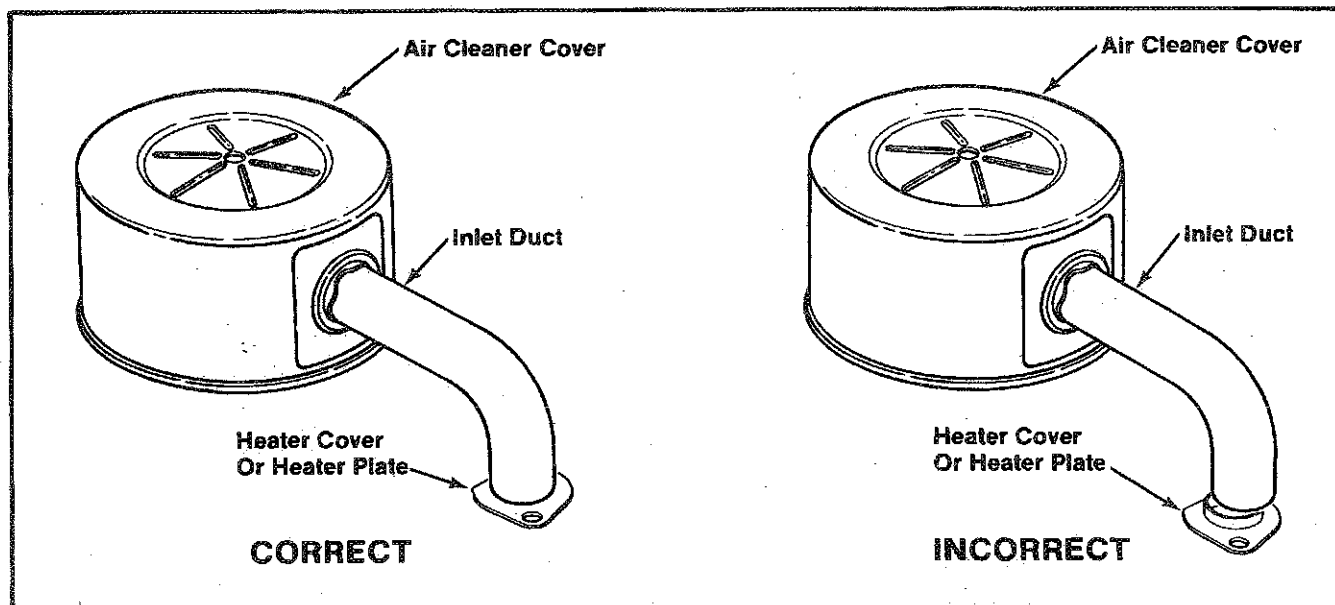

Figure 5-6. Installing Anti-Icing Air Cleaner Cover
**For "Winter" Position** - Make sure the inlet duct fits completely over heater plate or heater cover. Refer to Figure 5-6. Make sure the air cleaner cover is sealed tightly around the entire perimeter of air cleaner base.